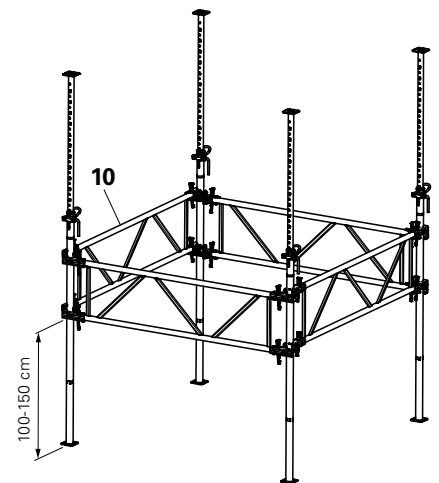

Fig. A1.06
2. Insert pre-assembled Slab Prop between the fastener and clamping jaws. (Fig. A1.06)
3. Close clamping jaw and push wedge downwards. Every frame has 4 fasteners each with one wedge (top and bottom as well as right and left). (Fig. A1.06 + A1.06a)
5. Hammer in all wedges (rebound impact). (Fig. A1.06 + A1.06a)